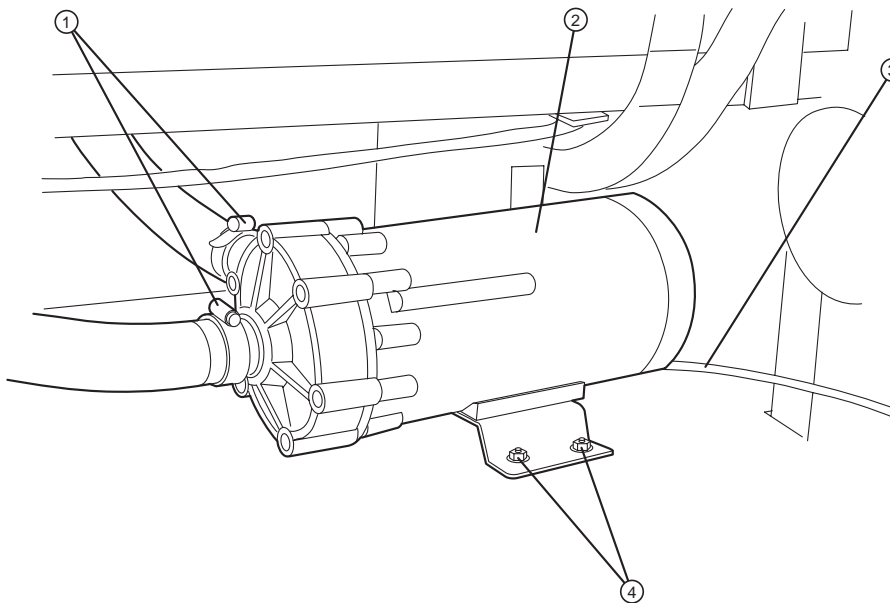

Figure 3-11 The circulation pump.
4. Using a flathead screwdriver, loosen the hose clamps securing the two (2) hoses to the pump. Refer to Figure 3-11. Remove both hoses.
- ①—Hose clamps. ②—Circulation pump. ③—Power lines (electrical connection).
④—Mounting plate.
5. Follow the black, white and green power wires (electrical connection) to the terminal block and disconnect. Refer to Figure 3-11.
6. Using an open end wrench, remove the nuts in the mounting plate. Refer to Figure 3-11.